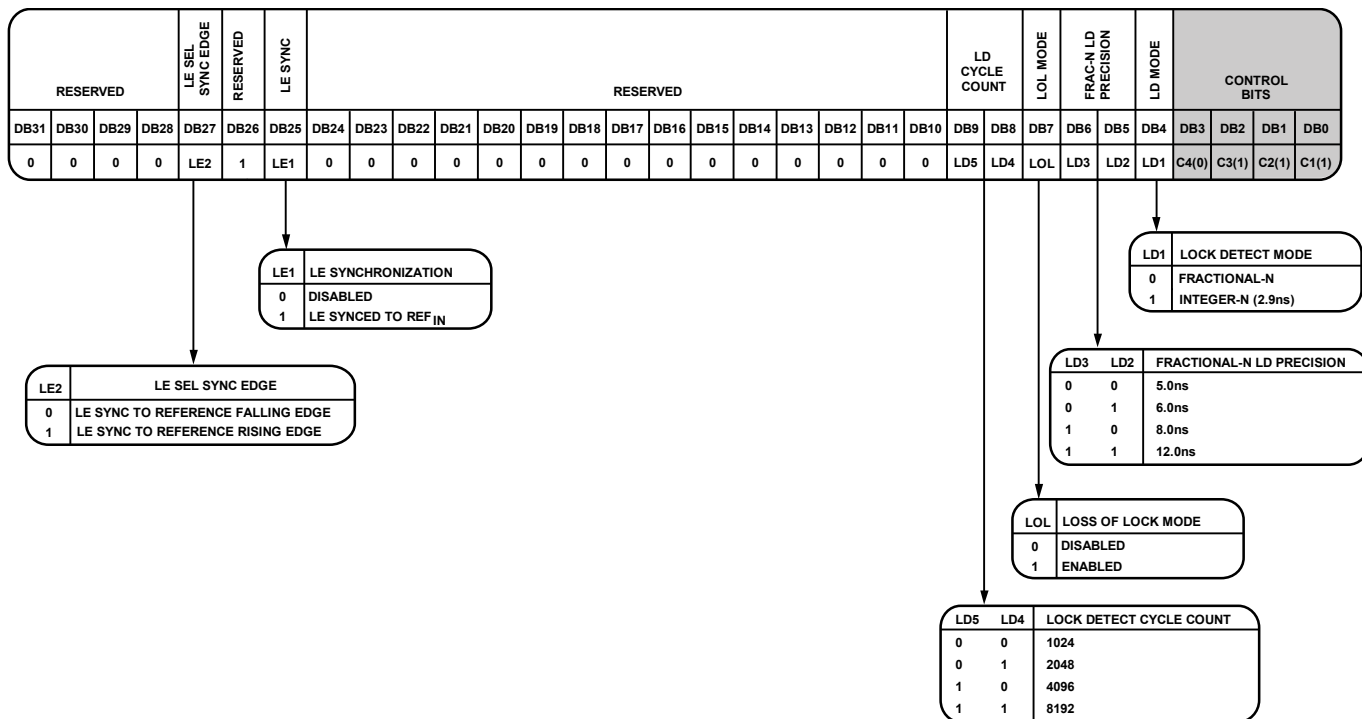

Figure 45. Register 7 Details
With C4 to C1 (Bits[DB3:DB0]) set to 0111, Register 7 is programmed. Figure 45 shows the input data format for programming this register.
LE2 (Bit DB27) allows selection of the synchronization load enable (LE) edge to the falling or rising edge of the reference clock, which is useful for applications that require synchronization to a common reference edge (see Figure 45). To use this bit, LE synchronization (Bit DB25) must be set to 1.
LD5 and LD4 (Bits[DB9:DB8]) set the number of consecutive cycles counted by the lock detect circuitry before asserting lock detect high (see Figure 45 for details).